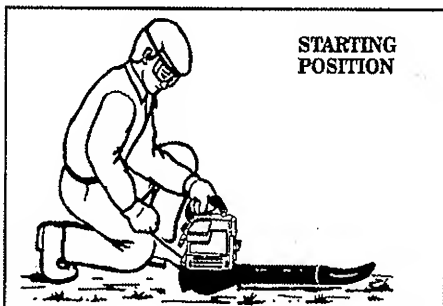

Figure 11
- Hold the unit in the starting position as shown in Figure 11. Make sure the blower end is directed away from people, animals, glass, and solid objects.
When starting engine, hold the unit as shown in Figure 11. Do not set unit on any surface except a clean, hard area when starting engine or while engine is running. Debris such as gravel, sand, dust, grass, etc. could be picked up by the air intake and thrown out through the discharge opening, damaging the unit or property or causing serious injury to bystanders or the operator.